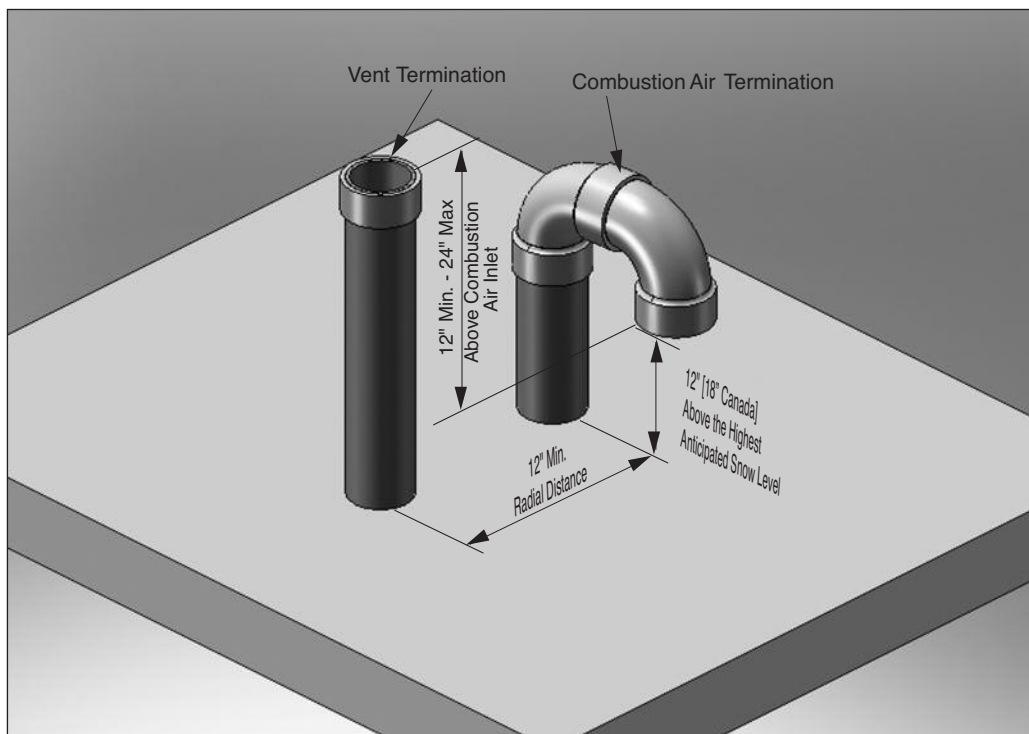

Fig. 1: Direct Vent - Vertical Termination of Vent and Combustion Air Piping.
2. The combustion air piping must terminate in an upside down “U” shape fashion using two 90° elbows as shown in Fig. 1 page 6 or with a tee as shown in Fig. 2 page 6. The termination must be installed 12” [18” Canada] above the highest anticipated snow level.
3. The vent must terminate vertically with a coupling to accept the bird screen and must be located 12” to 24” above the combustion air inlet as shown in Fig. 1 & Fig. 2 on page 6.
4. The vent and combustion air terminations must be located a radial distance of 12” to 24” from centerline of vent termination to centerline of air termination as shown in Figs. 1 & 2 on page 6.
3. Locate the vent and combustion air pipe penetrations to provide clearances as described in Fig. 1 & Fig. 2 on page 6.
2. The combustion air piping must terminate in an upside down "U" shape fashion using two 90° elbows as shown in Fig. 1 page 6 or with a tee as shown in Fig. 2 on page 6.
3. The vent piping must terminate vertically with a coupling as shown in Figs. 1 & 2 page 6.
Do not extend the vent pipe above the roof beyond the dimensions shown in Fig. 1 & Fig. 2 on page 6. Extended exposure of the vent pipe could cause condensate to freeze and block the vent pipe.